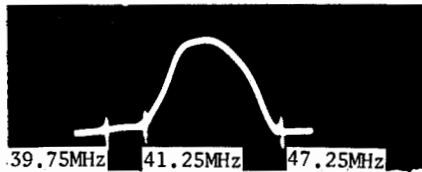

Figure 1
41.25MHz	Adjust T102 and T108 (Picture IF Module) for MINIMUM. See Figure 1.
47.25MHz	Adjust T101 (Picture IF Module) for MINIMUM. See Figure 1.